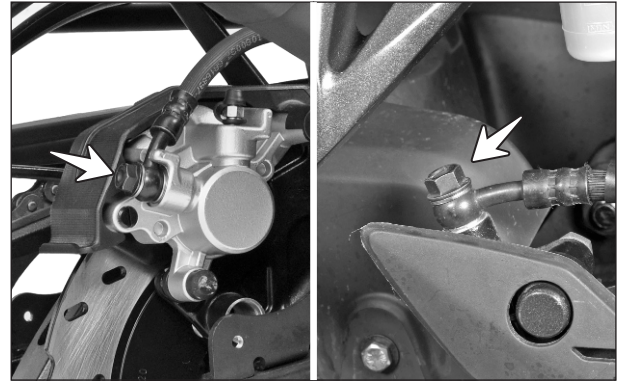

Fig. 6.111
- Remove the banjo bolt (2 nos.) along with gaskets (2 nos. on each side) from both the ends of the hose complete brake. (Fig. 6.111)